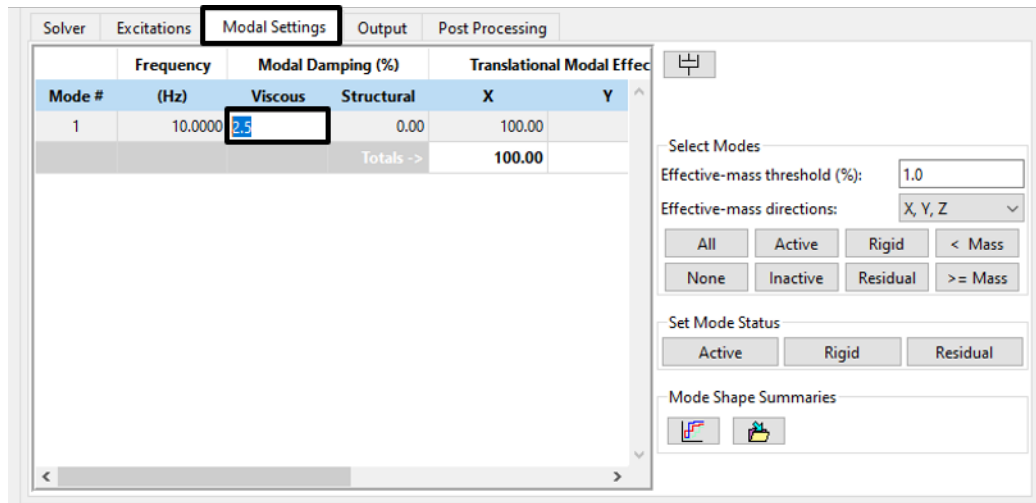

Figure 4-13. Assign 2.5% modal viscous damping to the mode directly in the modes table.
4. Assign 2.5% damping to the single mode. Select the *Modal Settings* tab, double-click in the *Viscous* cell under *Modal Damping* for the mode, and enter a value of 2.5 (Figure 4-13).